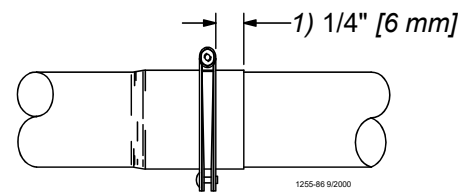

Figure 38. Clamp Installation
Figure 38 shows the proper clamp location on the tube joint. *Do not tighten the clamp at this time.*
- make sure the clamps are located, as shown in **Figure 38**.